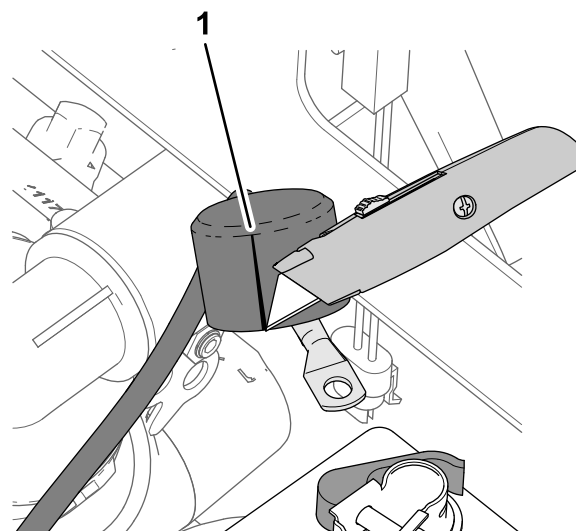

Figure 209
- Slit the insulator cover of the positive battery cable to the starter as shown in Figure 209.